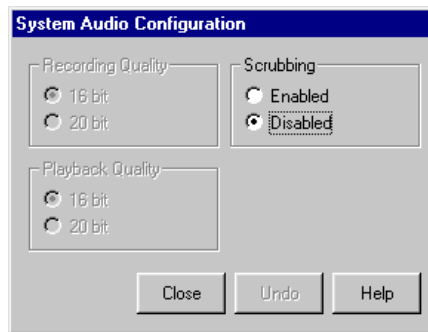

Figure 44. System Audio Configuration dialog box
1. Choose **Option | Audio Configuration** or click the System Audio Configuration button. The System Audio Configuration dialog box appears (Figure 44).